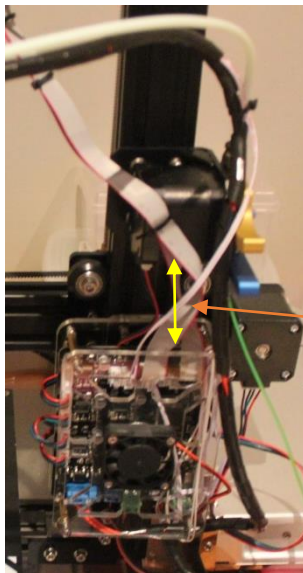

Figure 2
3. You should ensure that the extruder motor is sufficiently above the controller board so that electronics board does not interfere with the spring lever handle. (Figure 2)